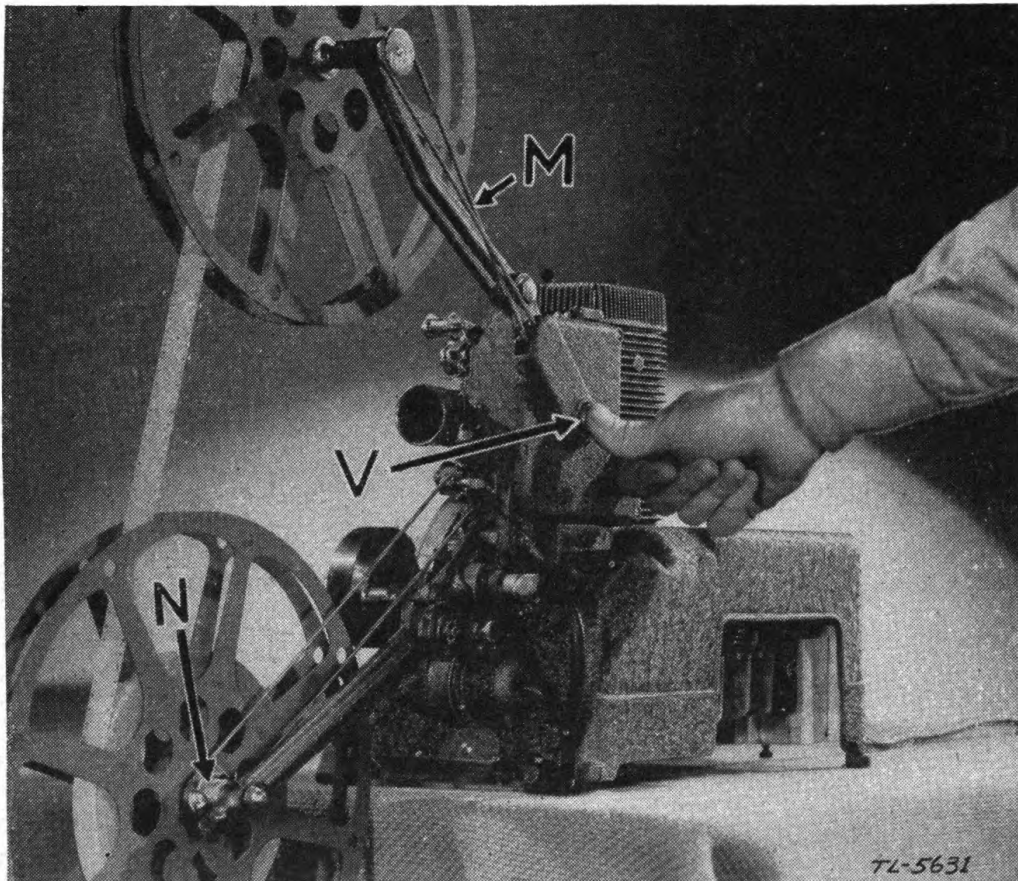

FIGURE 20.—Rewinding Ampro YA projector.
(6) If the film breaks, lap the broken end around the take-up reel, or repair temporarily, using adhesive tape. Mark the break by inserting a small piece of paper in the reel. Splice the film as soon as the showing is finished.
c. Rewinding.—(1) *Ampro YA.*—After completing projection, loop the free end of the film around the empty reel; disengage take-up belt at *N*; cross the belt *M* on the feed reel; hold in the rewind button *V*; and start the projector motor. (See fig. 20.)